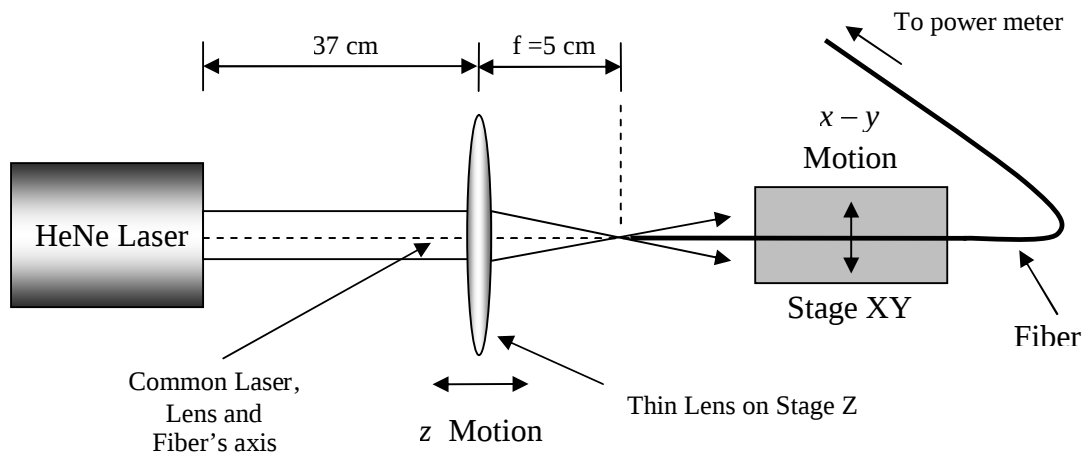

Figure 5: Thin Lens Light Coupling Setup.
- 1- Setup the lens coupling arrangement shown in Figure 5.